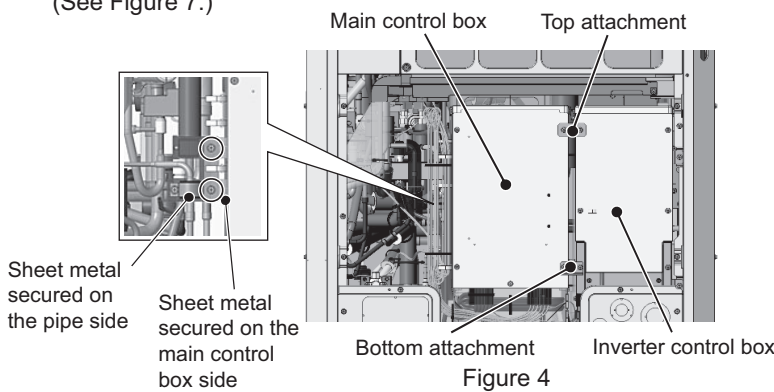

Figure 4
- (4) Remove the top attachment connecting the main control box and the inverter control box by unscrewing the two screws. (See Figure 4.)
- (5) Remove the bottom attachment connecting the main control box and the inverter control box by unscrewing the two screws. (See Figure 4.)
- (6) Remove the two screws from the sheet metal secured on the pipe on the left of the main control box. (See Figure 4)